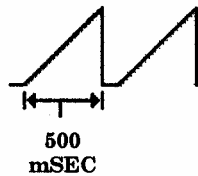

Figure 4. 500 mSec ramp.
- (11) Set oscilloscope to display a 0 to 10 volt sweep ramp using **Vertical 2** as the trigger source.
- (12) Adjust A16R67 SWP TIME for a ramp of 500 msec (fig. 4) duration (R).
- (14) Connect oscilloscope to A16TP4. Display should be similar to figure 4.